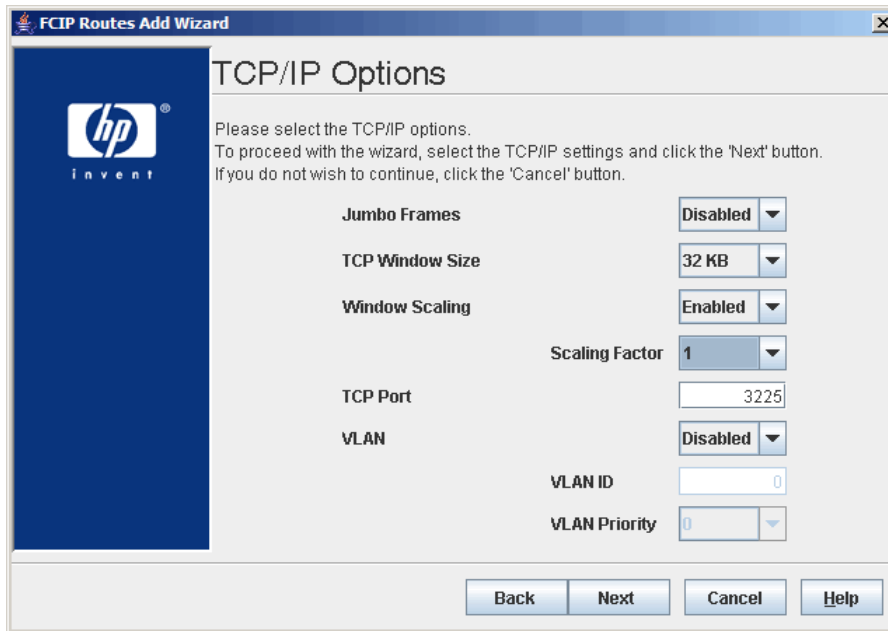

Figure 38 FCIP route add Wizard—TCP/IP options dialog box
4. Enter TCP/IP parameters per the **TCP/IP Options** dialog box, see Figure 38.